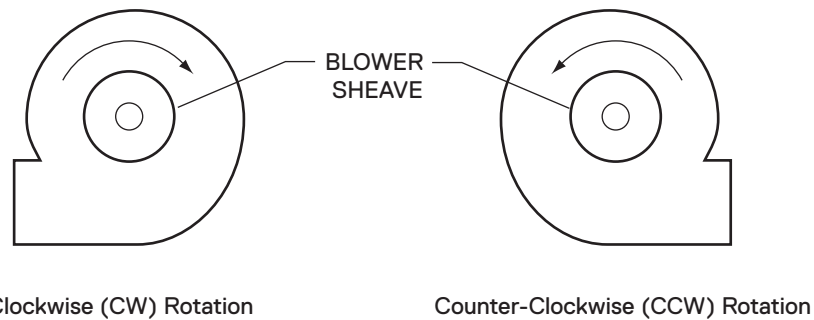

Figure 2
- 15 Apply power to the blower motor momentarily (bump start) to check for proper blower wheel rotation. If the blower is rotating in the wrong direction, reconnect the motor leads per the motor manufacturer's wiring schematic. **Blower rotation is determined by viewing the blower from the motor side of the blower, NOT from the inlet side.** After reconnecting the leads, repeat this step. See **Figure 2**.